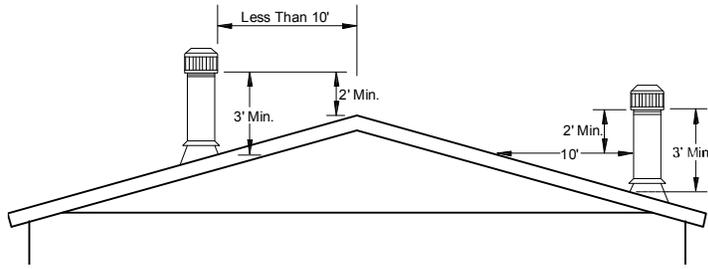

Figure 100. Chimney clearance
2. **Install chimney pipe.** Assemble and seal the chimney per the fireplace or wood stove manufacturer's installation instructions and if there is a conflict between the instructions and the figure, follow the instructions. To assure sufficient draft for proper operation, extend the chimney at least three feet above the highest point where it penetrates the roof and at least two feet higher than any surface within 10 feet of the chimney (**Figure 100**). Use additional section(s) of chimney pipe (not provided) if required by local code or if the site has obstructions within 10 feet of the chimney.